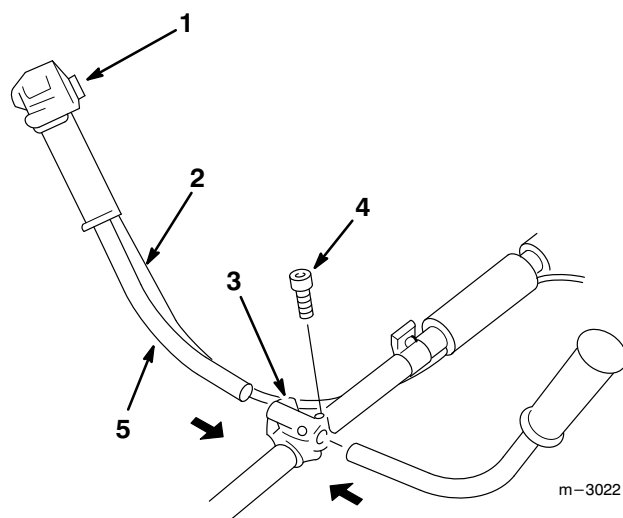

Figure 4
1. Loosen the four Phillips hex head screws on the top of the clamp bracket (Fig. 4).
2. Insert the left and right bullhorn handles into the clamp bracket. Note that the bullhorn handle with the throttle trigger and stop switch goes on the right-hand side of the Brushcutter (Fig. 4).
3. Adjust the bullhorn handles to the desired position, then tighten the four Phillips hex head screws (Fig. 4).